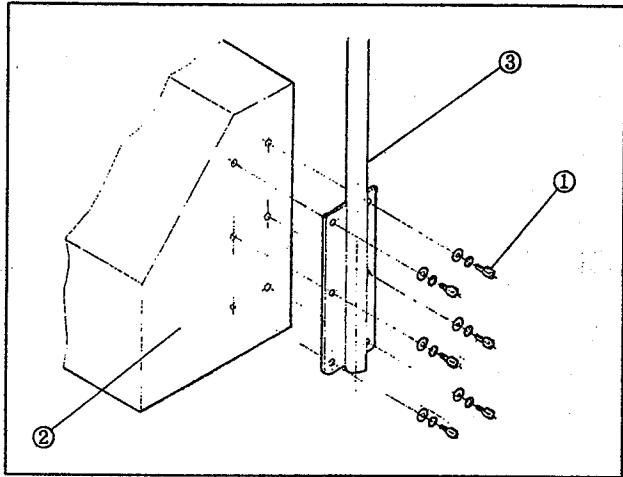

Fig. 1
1. INSTALLING ELASTIC REFORMER (Fig.1)